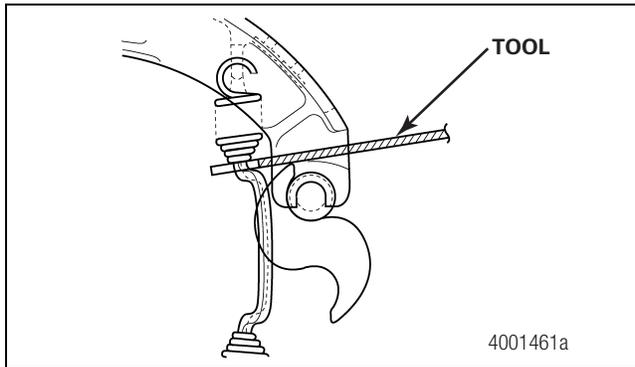

Figure 4.16
7. Use a brake spring tool to install the shoe return spring on the brake shoes. Figure 4.16.